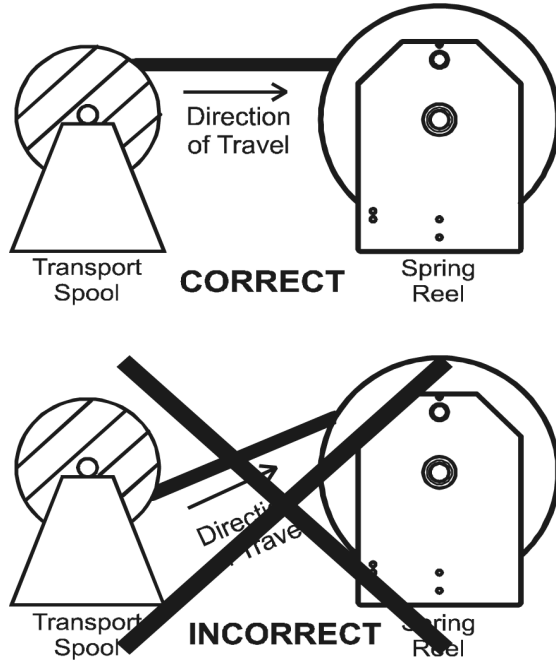

Figure 2
2.5.1 Either of two methods for installing cable on the reel may be used. The first method is to simply lay the cable out straight along the path of travel and wrap onto the reel. The second method requires using a support for the cable being wrapped (see Figure 2, page 9). In either method, it is important that the cable not twist or loop.